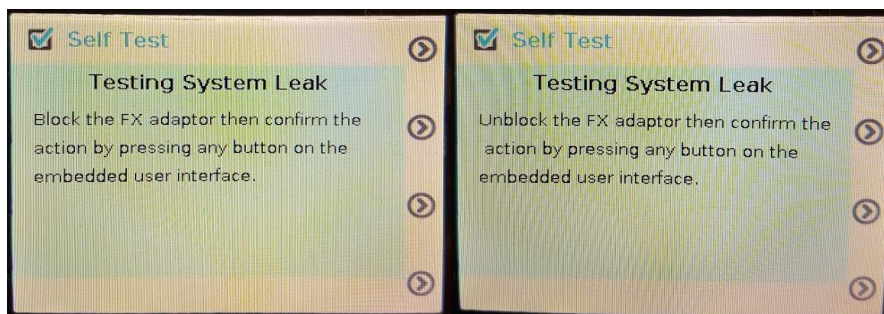

Figure 9. System Leak test instructions
2. Prompts the user to close the FX adaptor port (see Figure 9)